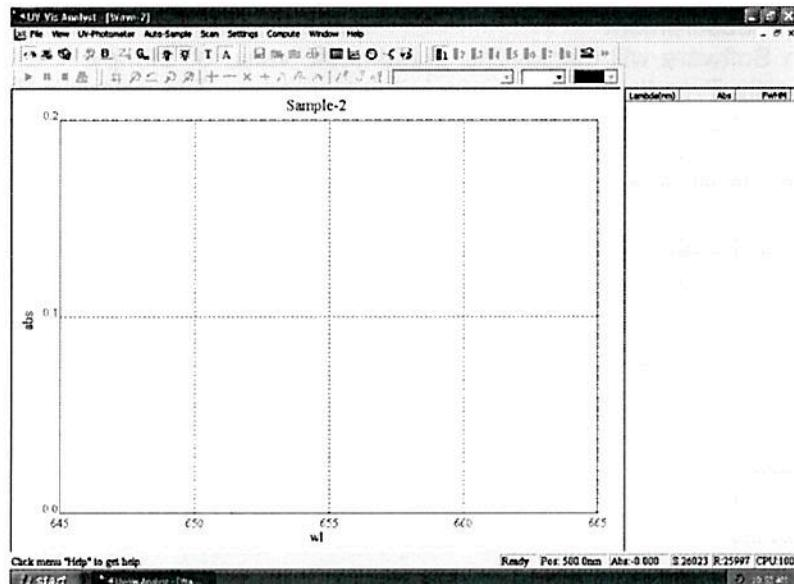

Fig. 4-10
1. Click  on the toolbar to new a sample scan measurement, appears the following form (Fig. 4-10).